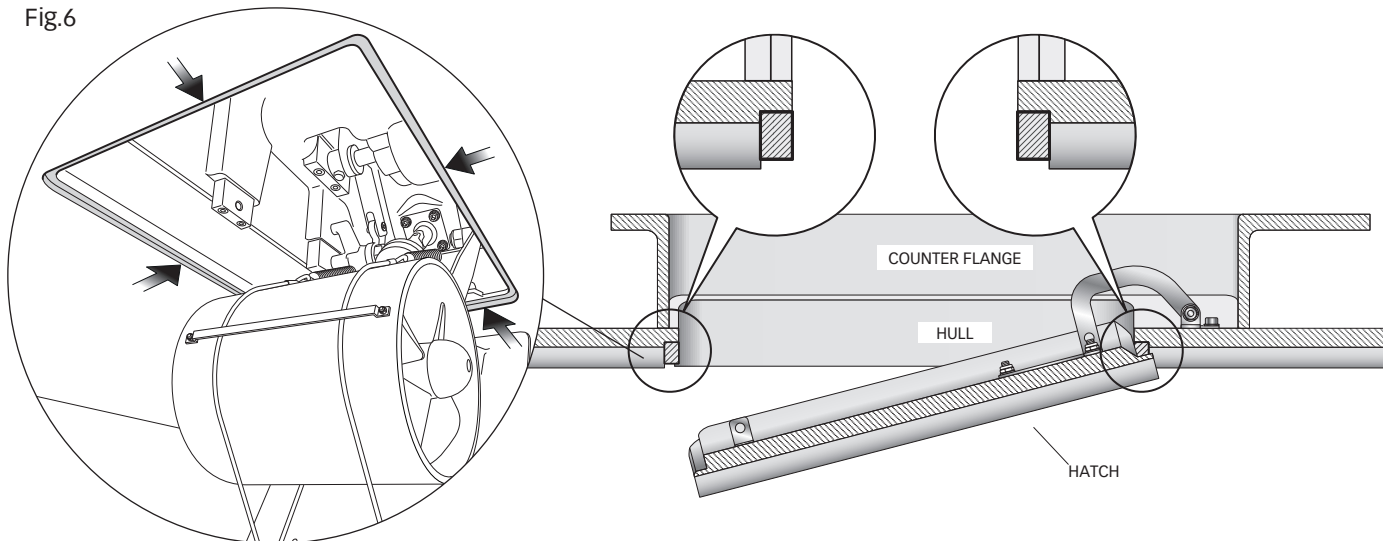

Fig.5
•Align the counter flange with the opening of the hull and **check that the 4 heights indicated in fig.B page 9** are correct. Apply resin to the counter flange or weld it, in the case of aluminium or steel, according to the techniques identified as the most suitable for the type of hull construction (fig. 5).